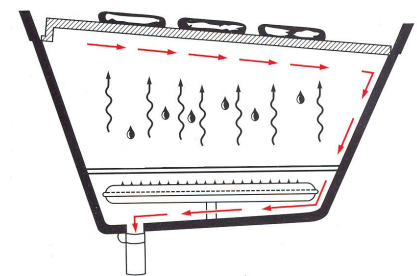

Fig. 8
**TO COOK:** The grids may be used in the high level, low level, or slope position (Fig. 8). When grilling lean meats, use the high or low level position. The concave channels of the grids will cradle some of the food's juices to lubricate the grids to reduce sticking, and to baste the food while grilling. For foods that generate a lot of juices, use the slope position. Excess juices will run down the concave channels and drain away to the drip pan to help prevent excessive flare-ups.